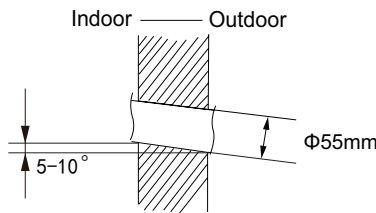

Fig.2
(2) Open a piping hole with the diameter of $\Phi 70\text{mm}$ on the selected outlet pipe position. In order to drain smoothly, slant the piping hole on the wall slightly downward to the outdoor side with the gradient of $5\text{-}10^\circ$.(As show in Fig.2)